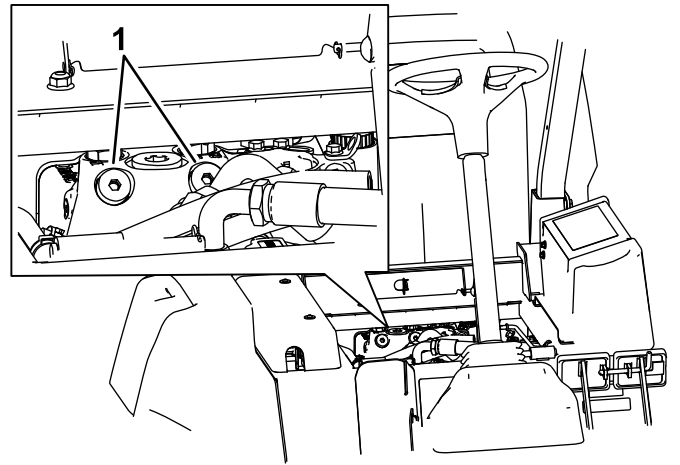

Figure 70
1. Raise the seat and locate the bypass valves, which are located below the front of the fuel tank (Figure 70).